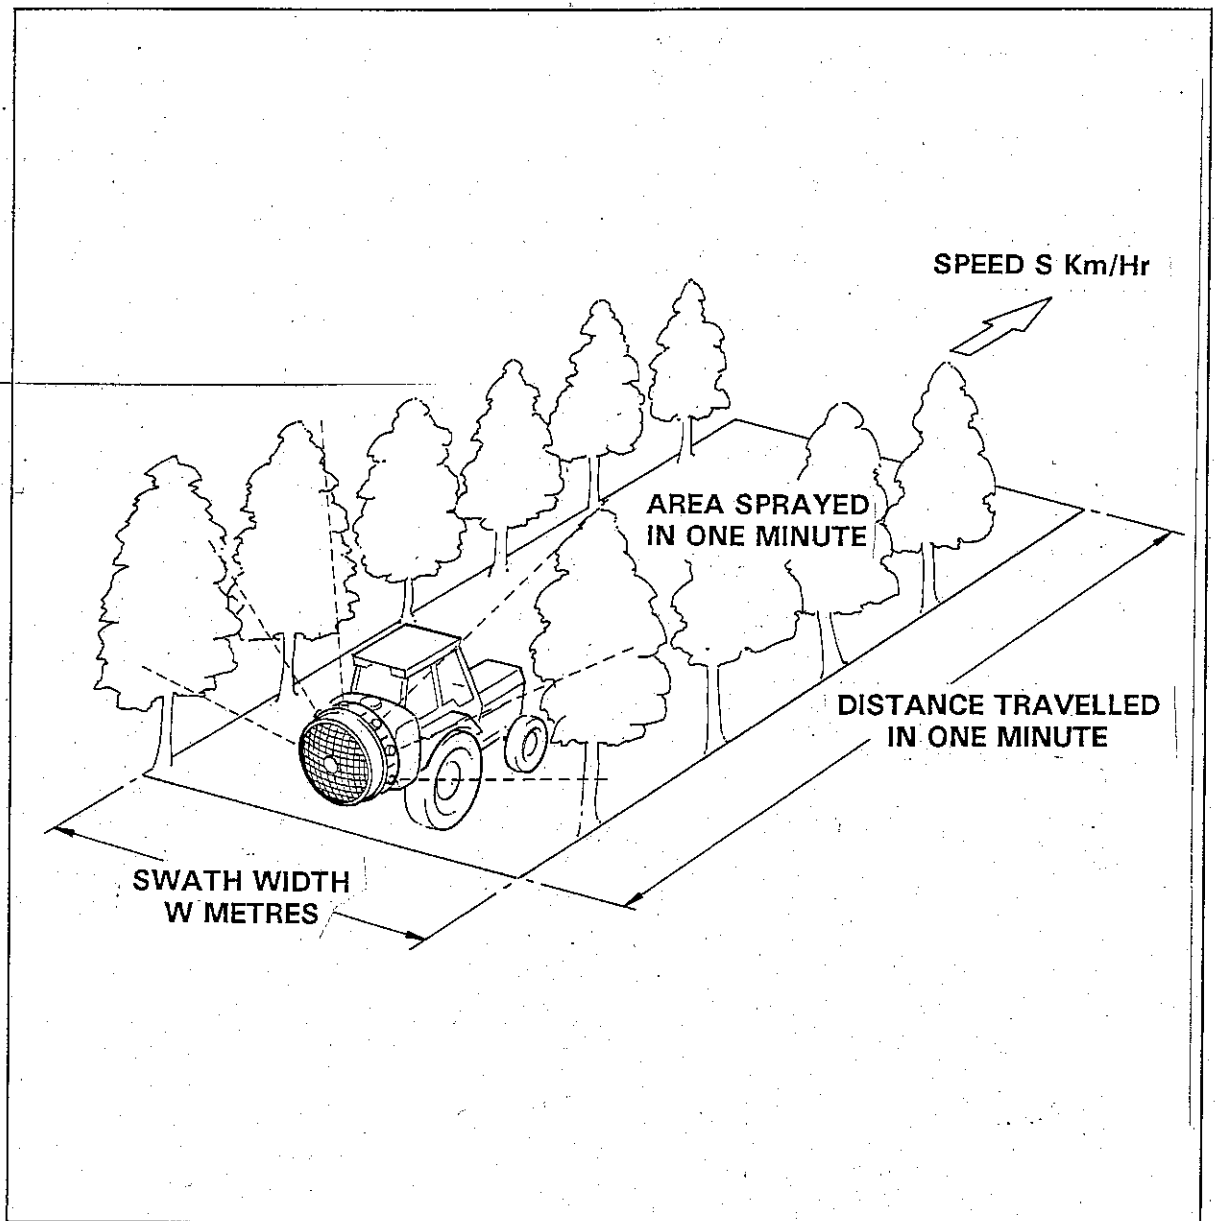

Fig. 5 - Coverage of Sprayer
3. Calculate the area treated by the sprayer per minute. As an example, Fig. 5 shows the sprayer being operated in an orchard crop.